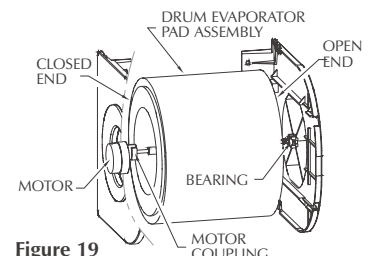

Figure 19
16. Starting with the closed end install the drum shaft into the center of the motor coupling then install the other end of the drum shaft into the bearing, gently pushing down in place to position. (Fig. 19)